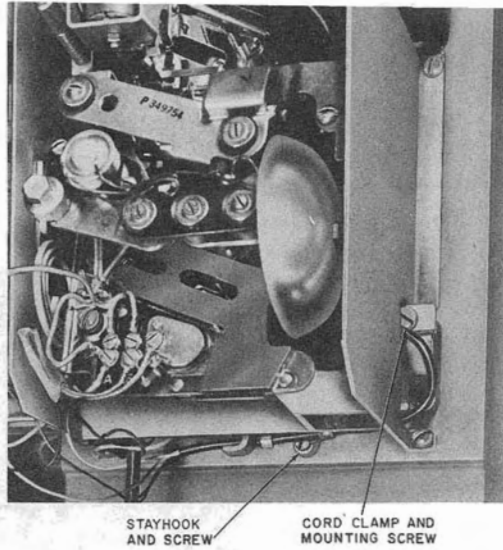

Fig. 20—Location of Armored Cord and Mounting Hardware in 235/1235-Type Coin Collector
2.29 Refer to Fig. 20 for routing and securing handset cord to 285/1235-type coin collectors.